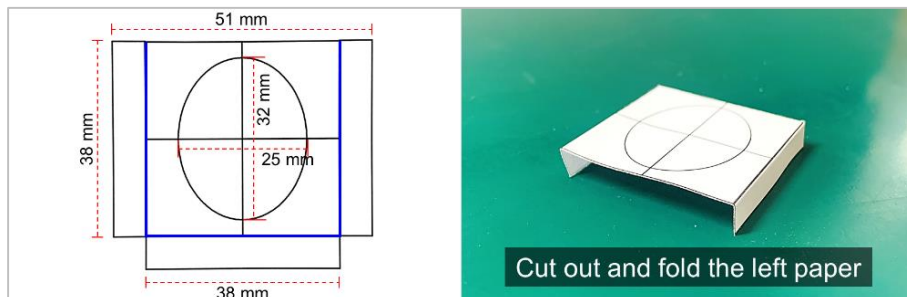

Figure 5. Drawing of the test jig (target paper)
- a. Print out the test jig (target paper) and fold according to the blue lines on the drawing as shown in Figure 5.